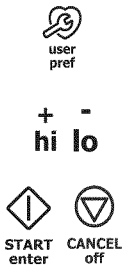

Figure 15: Audio level adjust on (L) or off (R)
The factory audio setting is preset to level 5 (Figure 15). The volume can be adjusted for lower levels from 5 through 1, or it can be turned off for a silent control setting (Figure 15).
1. Press **user pref** until **AUd 5** appears (Figure 15).